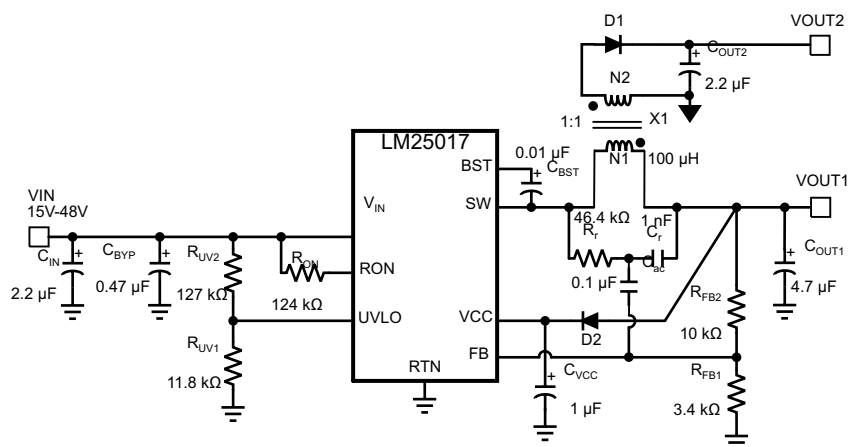

图 8-5. Typical Isolated Application Schematic
An isolated supply using LM25017 is shown in 图 8-5. Inductor (L) in a typical buck circuit is replaced with a coupled inductor (X1). A diode (D1) is used to rectify the voltage on a secondary output. The nominal voltage at the secondary output (V_{OUT2}) is given by 式 17.